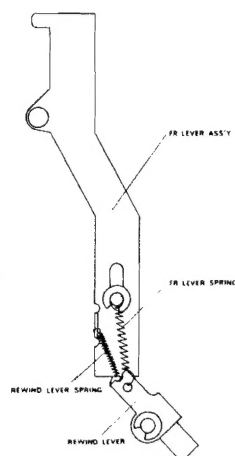

Fig. 20
- 5 If cassette door does not open properly at eject position, adjust the part as shown in Fig.20.